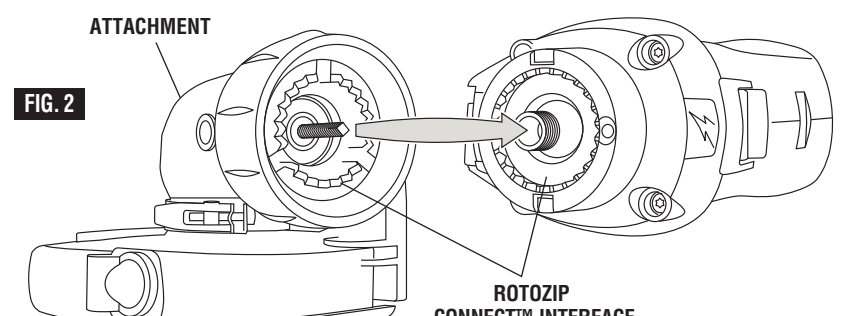

FIG. 2
- Thread arbor nut provided onto output shaft finger tight, depress shaft lock and tighten wheel with the wrench provided (Fig. 2).
3. Position the attachment onto the threaded Rotozip Connect™ interface. Note: It may be necessary to rotate attachment slightly to engage square end of the right angle drive into tool shaft (figure 2).